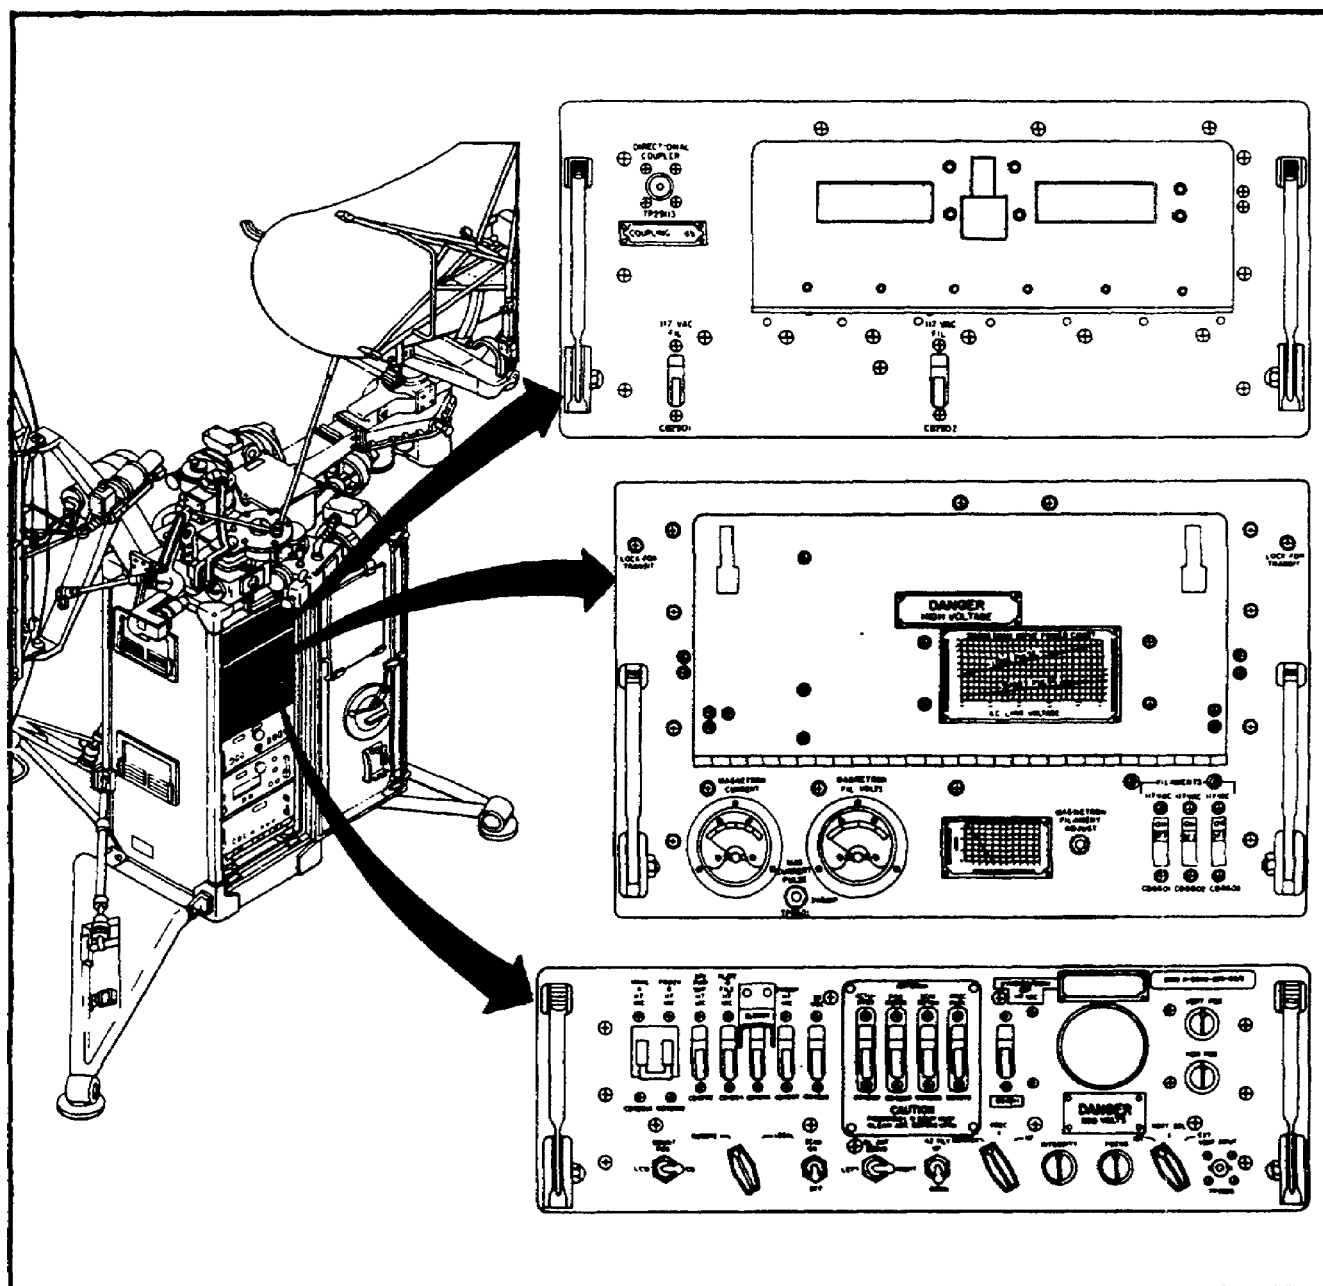

Figure 44. Receiver, transmitter, and control.
b. Locate and identify receiver, radar chassis R-981/FPN-40; transmitter, radar T-749A/FPN-40 chassis; and control, monitor chassis C-2124A/FPN-33 on receiver-transmitter group OA-2667/FPN-40. (See Figure 44.)
l. Locate the control monitor, C2124A/FPN-33. (See Figure 44.)
- _____ Receiver-radar R-981/FPN-40 (Figure 44)
- _____ Transmitter-radar T-749A/FPN-40 (Figure 44)
- _____ Control-monitor C-2124A/FPN-33 (Figure 44)